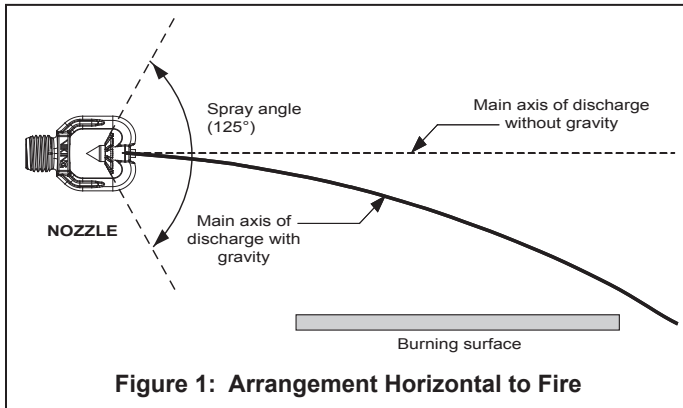

Figure 1: Arrangement Horizontal to Fire
1. The fine water spray discharge from the nozzle covers the potential burning surface (see Figure 1).